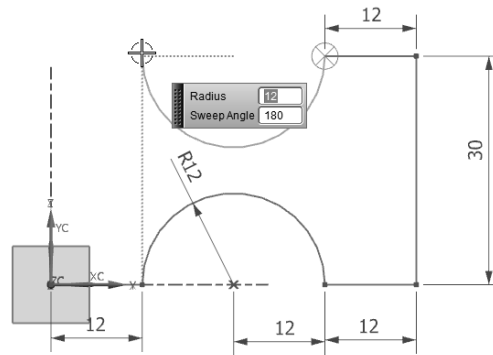

Figure 2-62 Horizontal and vertical help lines displayed to define the endpoint of the arc
13. Move the cursor over the lower arc once and then move it toward the left, in line with the upper right horizontal line from where this arc starts, refer to the Figure 2-62.
A horizontal help line is displayed originating from the center of the arc being drawn. At the point where the cursor is vertically in line with the start point of the lower arc, the vertical help line appears from the start point of the lower arc, refer to the Figure 2-62.